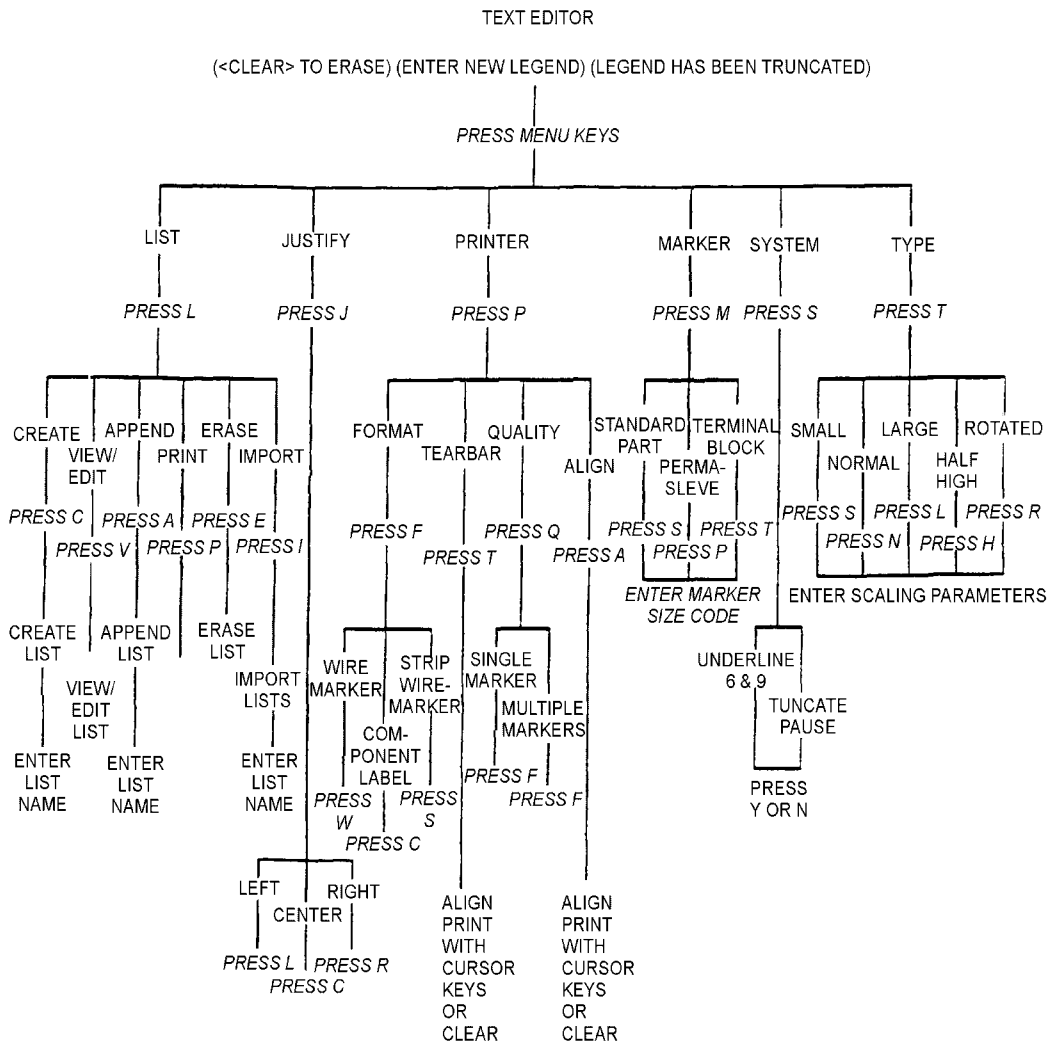

Figure 22. Menu Tree
79. **MENU TREE.** The general structure of the software is displayed in the menu tree (Figure 22). When you